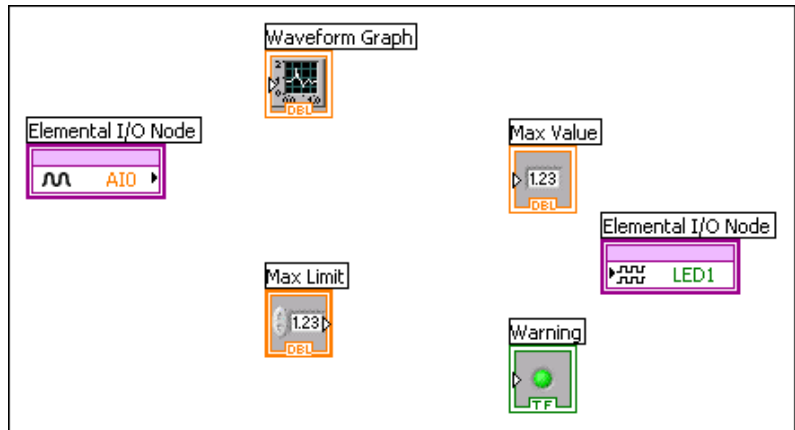

Figure 14. Adding the Elemental I/O Nodes to the Block Diagram
6. Place a DSP LED node, located on the **Programming»Elemental I/O** palette, on the block diagram as shown in Figure 14.